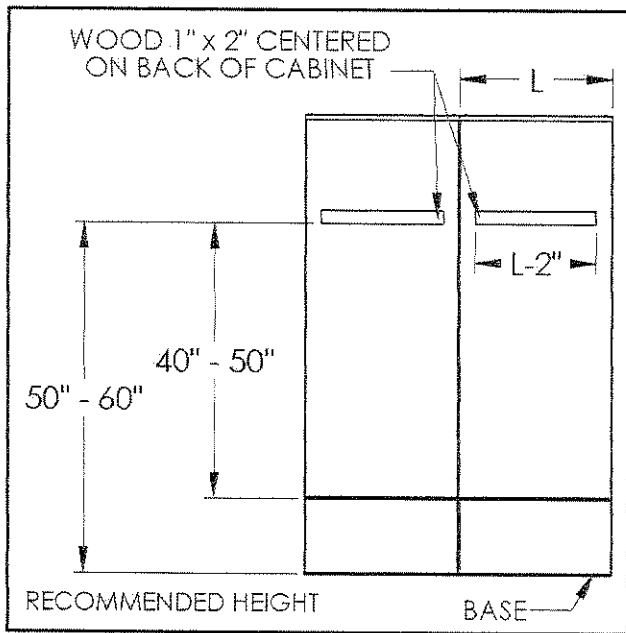

Figure 11
4. Cabinets are fastened to walls by bolting the back to the wall with appropriate hardware, not included, for wall type. If required, with a 1" x 2" wood cleat, not included, is first fastened to the wall with appropriate hardware and then the cabinet is attached to the wood cleat (see Figure 11).